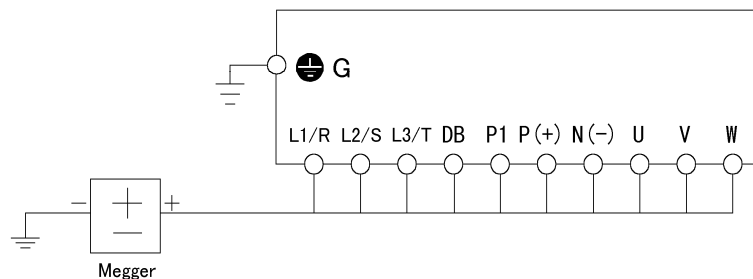

Fig. 7-4-1 Main Circuit Insulation Test
- c - Connect the main circuit terminals together using common cables as shown in Fig. 7-4-1.